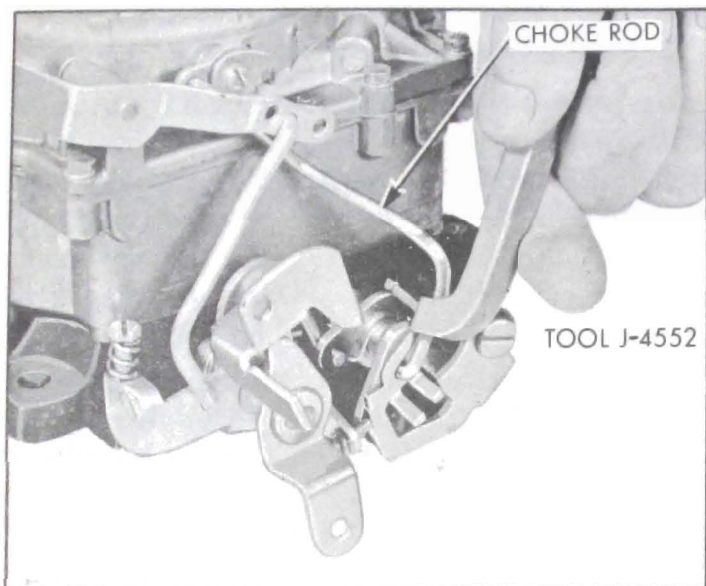

Figure 3-83—Adjusting Fast Idle Cam
2. If choke valve clearance is not correct, bend choke rod as required to obtain this clearance using Tool J-4552. See figure 3-83.